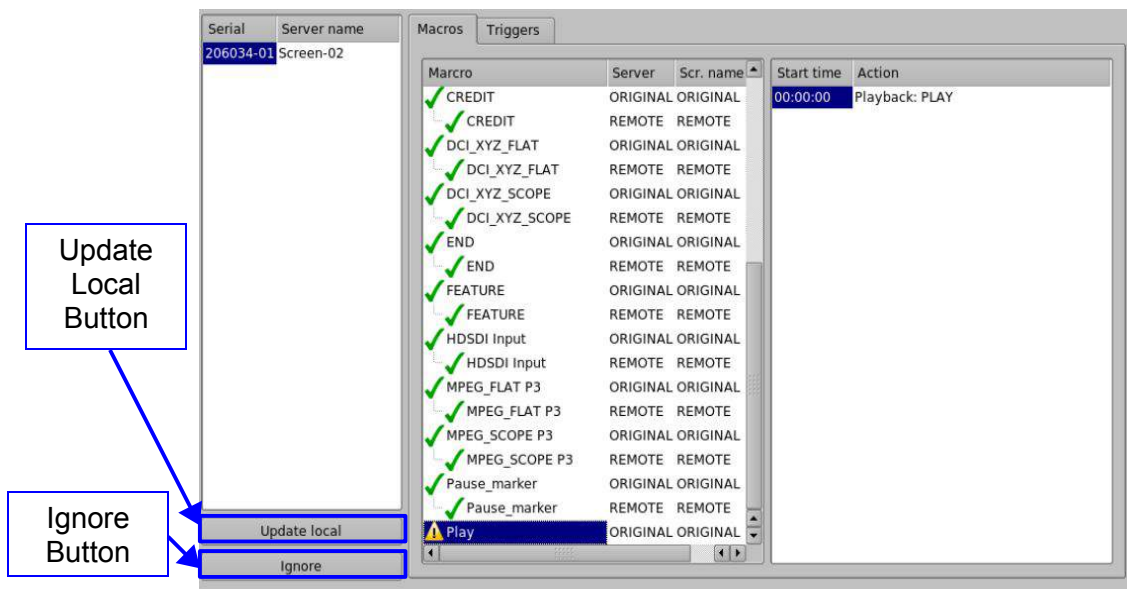

Figure 33: Macro Editor Window – Remote Tab – Macro Selected
- Update Local Button: Update TMS macros.xml (Figure 33).
- Ignore Button: Ignore the screens remote changes (Figure 33).